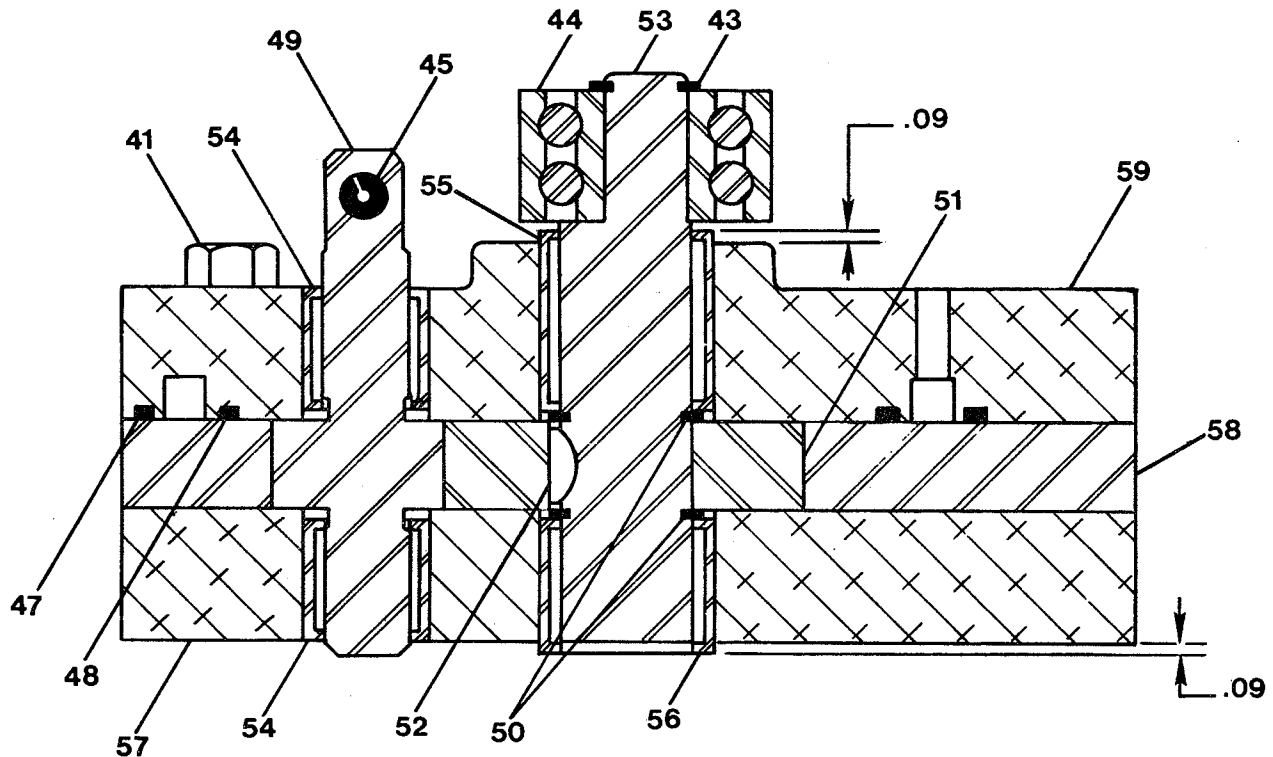
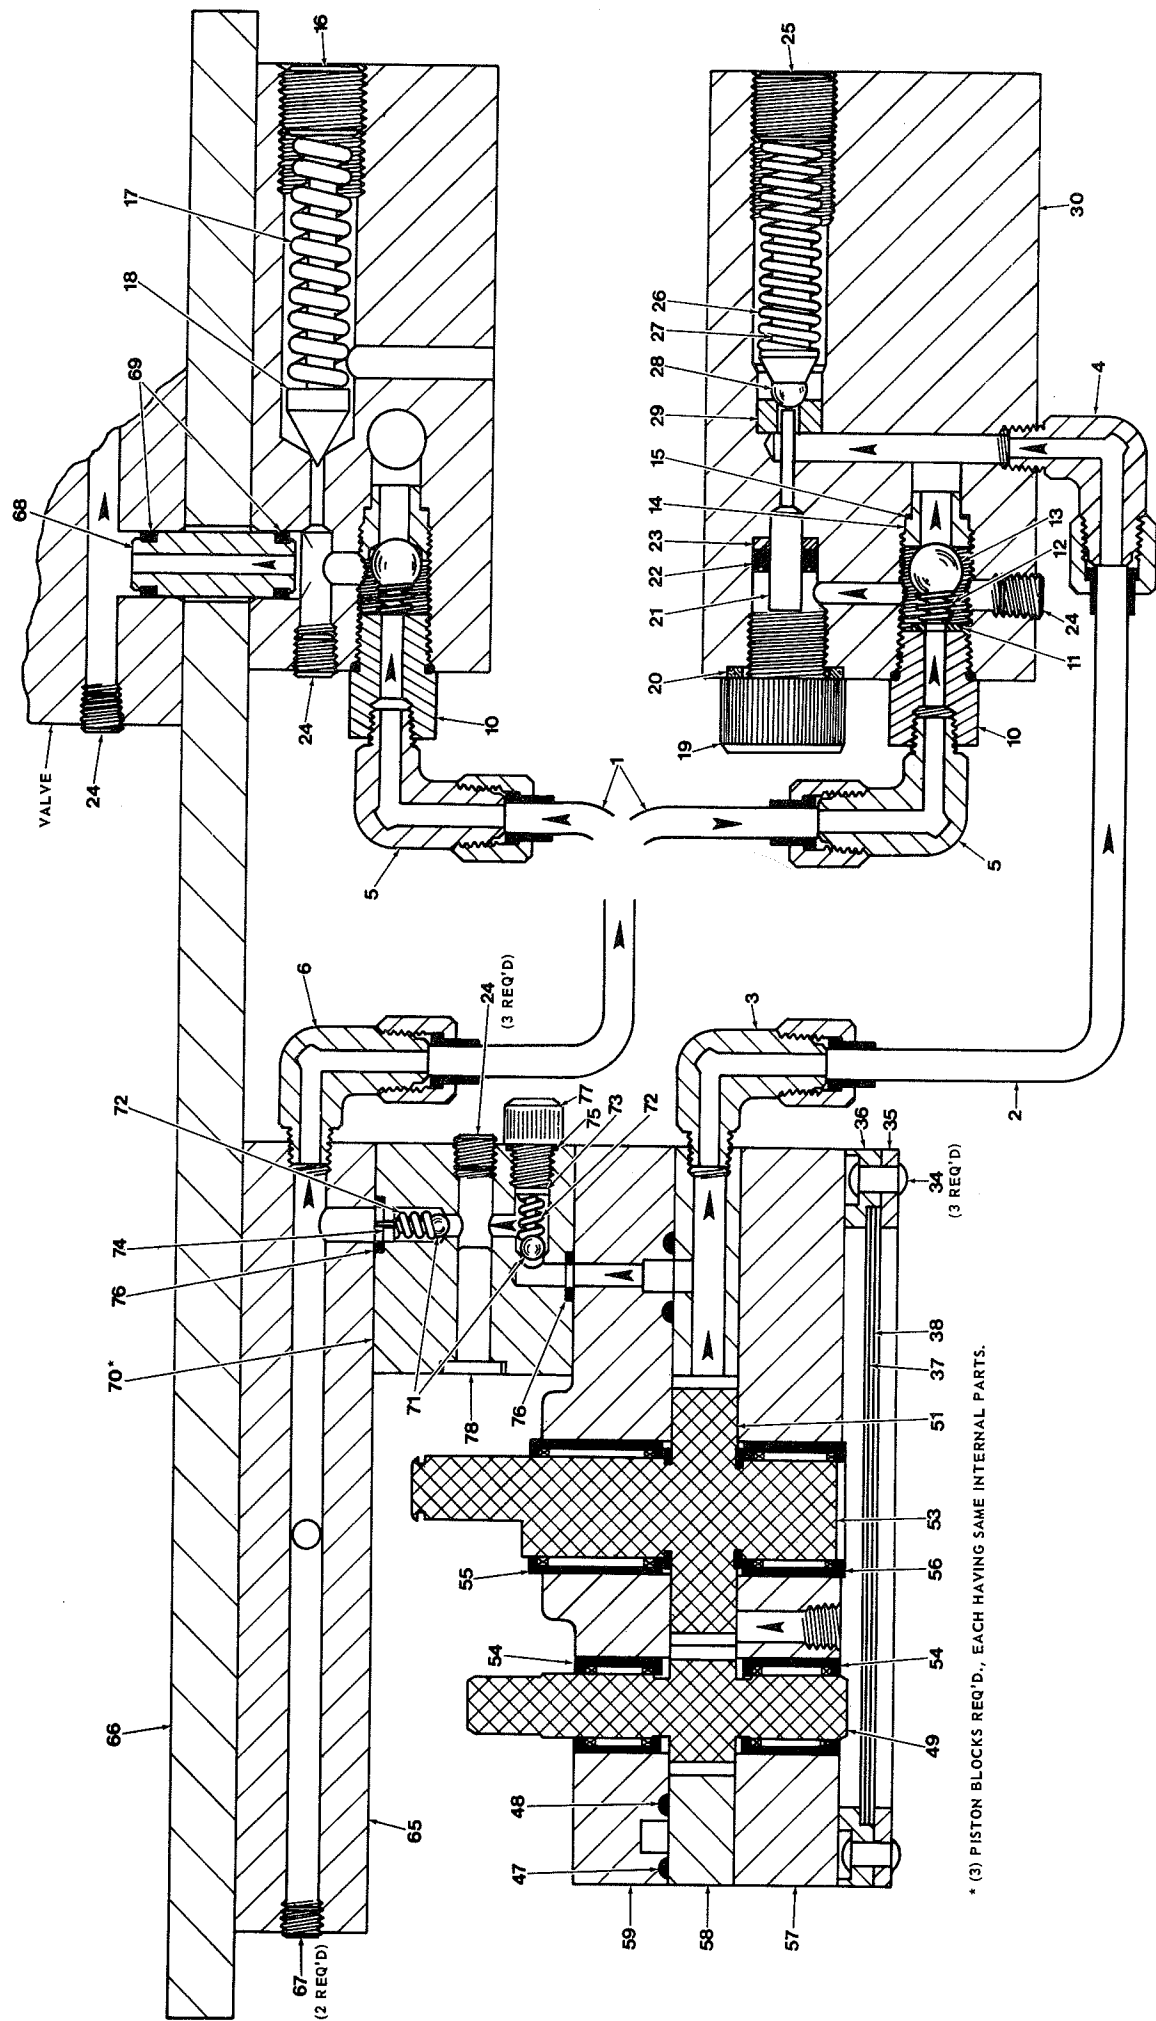

FIGURE 3-3. CUTAWAY VIEW OF LOW PRESSURE PUMP
FIGURE 3-4. LOW PRESSURE SCHEMATIC
k. Refer to detail B, figure 4-2 along with figure 3-3
(6) Remove pipe plug (60) only if replacement is required.
l. Remove high pressure plate (65) from reservoir cover (66) by removing four cap screws (61) and lock washers (62). Remove cap screws (63) and high pressure pump assemblies (64) from high pressure plate (65). Remove pipe plugs (26) only if replacement is required.
m. Refer to detail C, figure 4-2, along with figure 3-4 and disassemble the three high pressure pumps (64) as follows:
a. Refer to detail C, figure 4-2, along with figure 3-4 and assemble the three high pressure pumps (64) as follows. See caution in paragraph 3-3.j.
(1) Dip all high pressure pump parts in hydraulic oil and assemble wet.
(2) Assemble inlet check ball (71), valve spring (72), inlet spacer (73), copper gasket (75) and cap screw (77) in piston block (70). Torque cap screw to 35 inch-pounds.
(3) If piston (78) was removed, install piston in piston block (70).
(4) If pipe plug (24) was removed, apply thread sealant and install.
(5) Place high pressure pump assembly into test stand and pressurize outlet port to test the inlet check ball and seat for leakage. Remove from test stand.
(6) Assemble outlet check ball (71), valve spring (72), outlet spacer (74), and "o" ring (76) in piston block (70). Remove piston (78) from piston block (70).
(7) Reinstall high pressure pump assembly into test stand and again pressurize outlet port, this time in order to test for outlet check ball leakage. Remove high pressure pump assembly from test stand and reinstall piston (78) into piston block (70).
b. Refer to detail B, figure 4-2 and figure 3-3 to
(1) If pipe plug (60) was removed, apply thread sealant and install plug in plate (58).
(2) Using installation tool (fig. 3-1,A), press bearing (54) into plate (57) until bearing is flush with outside of plate as shown in figure 3-3.
(3) Using installation tool (fig. 3-1,A), press bearing (54) into plate (59) until bearing is flush with outside of plate as shown in figure 3-3.
(4) Using installation tool (fig. 3-1,B), press bearing (56) into plate (57) until bearing protrudes 0.09 inch from outside edge of plate as shown in figure 3-3.
(5) Using installation tool (fig. 3-1,B), press bearing (55) into plate (59) until bearing protrudes 0.09 inch from outside of plate as shown in figure 3-3.
(6) Dip all pump parts in hydraulic oil and assemble wet.
(7) Install woodruff key (52), gear (51) and retaining rings (50) on high pressure shaft (53).
(8) Place drive gear (49) and high pressure shaft (53) in plate (57). Place plate (58) over gears on plate (57). Install "o" rings (47 and 48) in plate (59) grooves and place plate (59) over gear shafts on plate (58).
(9) Install dowel pins (46) and attach plates together with four cap screws (42) and nuts (41). Carefully torque nuts (41) in rotation, always making sure that shafts do not bind. Torque to 50 inch-pounds.
(10) Install bearing (44) and retaining ring (43). Press pin (45) into drive gear (49) shaft until an equal amount of pin protrudes from each side of shaft.
(11) Make sure drive gear (49) can be turned freely by hand.
c. Refer to detail A, figure 4-2, along with figure 3-4 and assemble unloading valve assembly (9) as follows:
(1) Install check ball (28), ball centering pin (27), unloading spring (26) and adjusting screw (25) in valve body (30) cavity. Turn adjusting screw into valve body until one to two threads are left protruding from the body. Final adjustment of screw will be made later.
(2) If pipe plugs (24) were removed, apply pipe sealant to plug threads and install pipe plugs in valve body (30).
(3) Push modular ring (23) and "u" cup (22) into valve body (30) cavity. Coat actuator (21) with Parker O-Lube, or equivalent, and install actuator through ring and "u" cup. Install gasket (20) and actuator plug (19). Torque plug between 40 and 50 foot-pounds.
(4) Install poppet (18), relief spring (17) and adjusting screw (16) in valve body (30). Turn adjusting